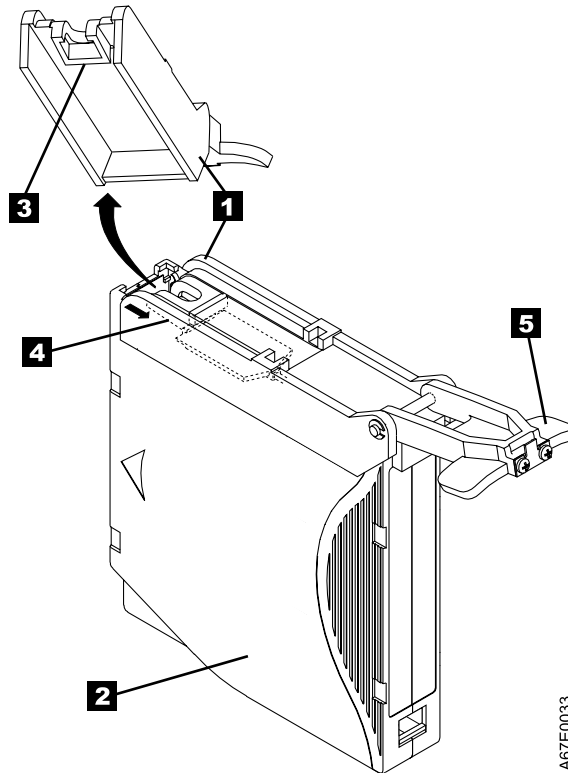

Figure 58. Attaching the leader pin attach tool to the cartridge. To hold the cartridge door open, hook the tool into the door and pull the tool back.
1. Attach the leader pin attach tool (**1** in Figure 58) to the cartridge (**2**) so that the tool's hook (**3**) latches into the cartridge's door (**4**). Pull the tool back to hold the door open, then slide the tool onto the cartridge. Open the tool's pivot arm (**5**).